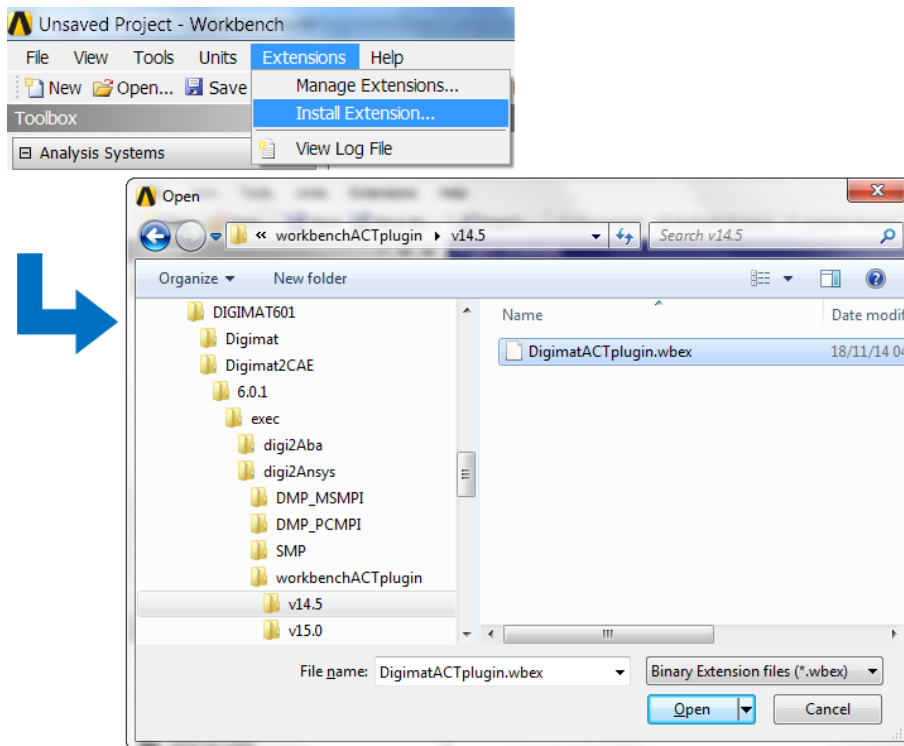

Figure I.4.6: Installing the DigimatACTplugin extension for ANSYS Workbench.
2. Browse the "Extensions" menu and select "Install Extension..." (Figure I.4.6).